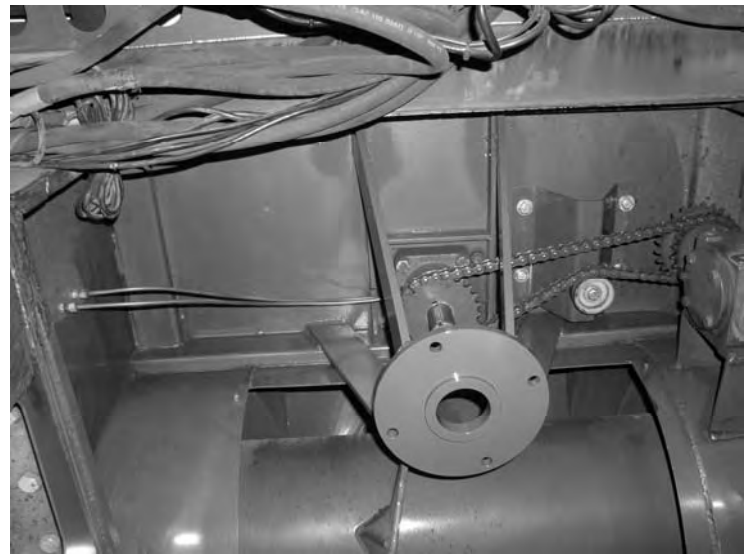

Figure 5
6. You can now place the flat bar supports in place (Top Support Plates # 510261), (Bottom Support Plates #510262). Use care to leave room for the drive chain for the feeder auger and the coupling sprockets. (Figures 5 & 6)